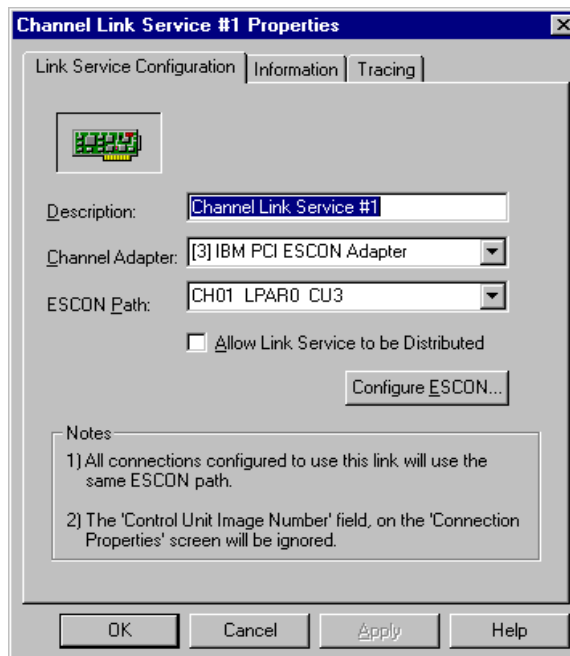

Figure 8-9. Link Service Properties
4. The Service Properties screen displays (Figure 8-9).